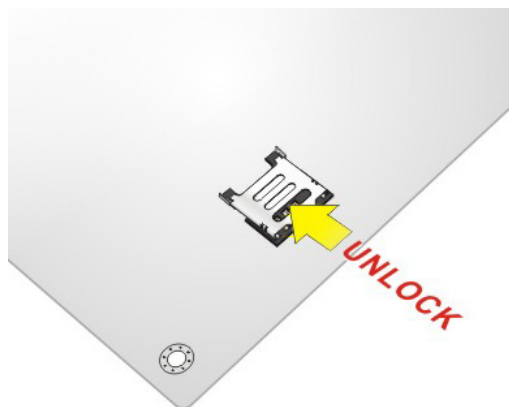

Figure 3-8: Unlock SIM Card Slot Cover
Step 2: Unlock the SIM card slot cover by sliding the cover in the direction as shown by the arrow in Figure 3-8.